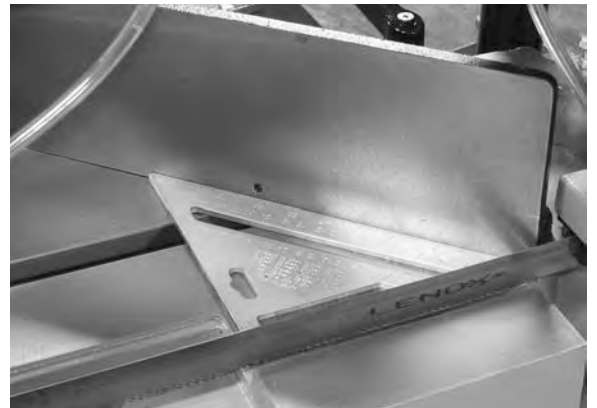

FIGURE 13
2. Place one end of a 45 degree square against the vise jaw and the other end against the blade and check to see if the vise jaw is 45 degrees to the blade. See Fig.13.